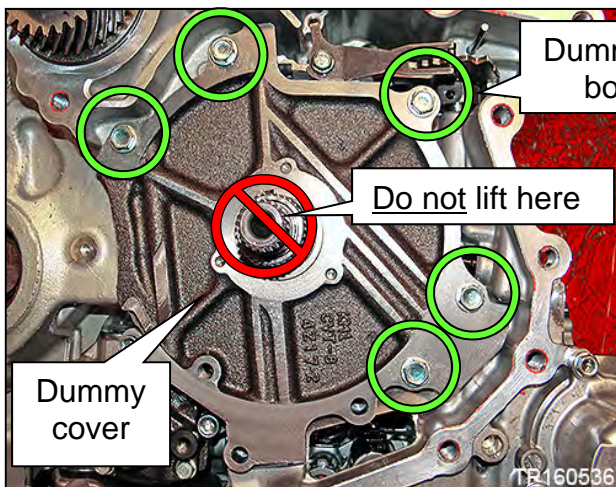

Figure 47
29. Remove the five (5) dummy cover bolts, and then remove the dummy cover (Figure 47).
- Lift the dummy cover from the sides **ONLY**. Do **NOT** lift from the input shaft (Figure 47). This can lift the clutch pack out.